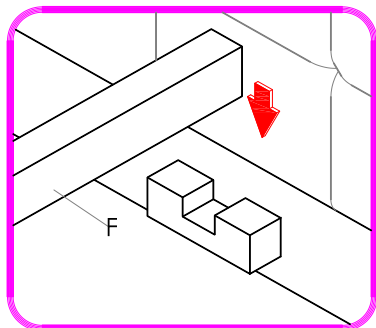

FIGURE 6
On inside face of both headboard and footboard are pre-installed wooden brackets for the support slat (F). Set the support slat (F) on the wooden brackets, as illustrated in **FIGURE 6**.